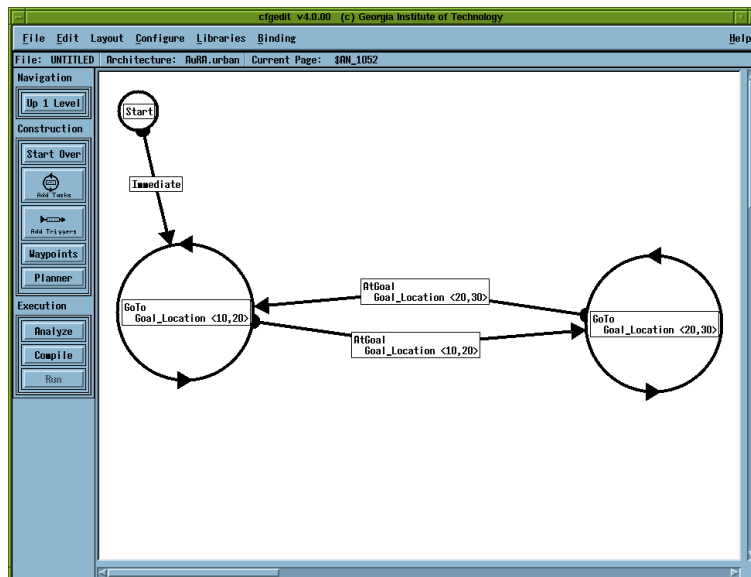

Figure 14: *CfgEdit* - the back_and_forth robot configuration
- By adding one more trigger from the second “GoTo” state to the first one with the at-goal location to be $\langle 30, 20 \rangle$, you have completed creating a back_and_forth robot (Figure 14).